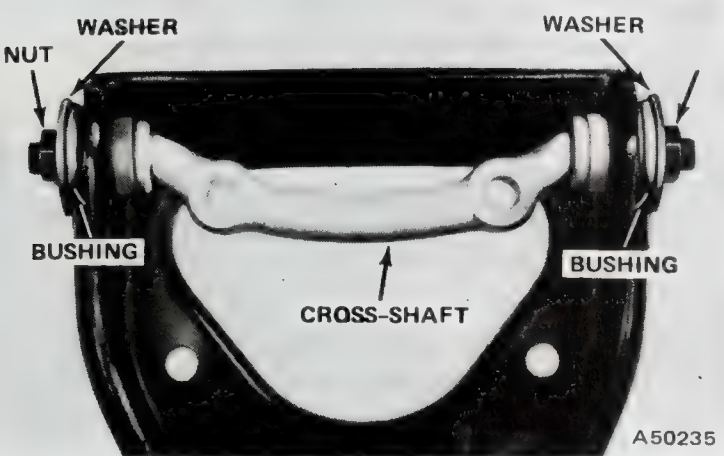

Fig. 2M-35 Bushing Nut and Washer Location
(2) Place U-Washer Tool J-23473-11 on upper control arm cross-shaft (fig. 2M-36).